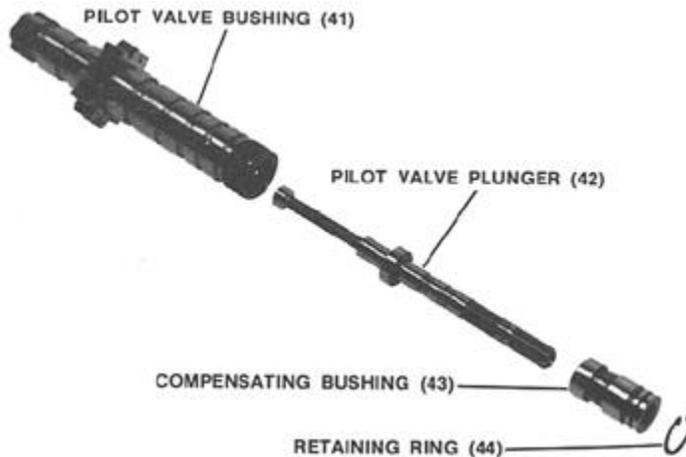

Figure 5-6. Mechanical Governor Pilot Valve Assembly
4. Assemble mechanical governor pilot valve bushing, pilot valve plunger, compensating bushing, and retaining ring, Figure 5-6.